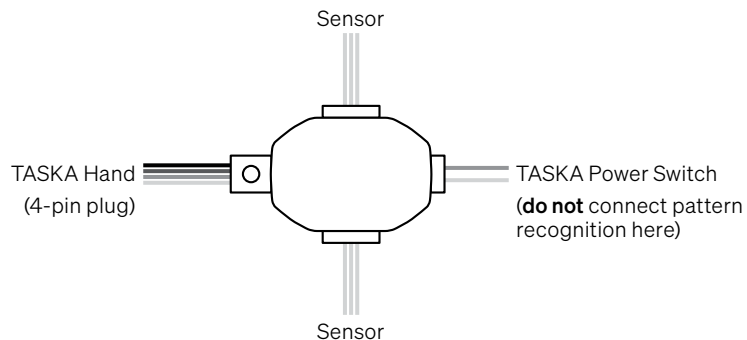

Figure 3: connecting 4-pin plug, sensors and Power Switch to Switch Block.
See figure 3 (page 11) for the correct wiring detail.
- ▲ Do not connect the COM line to the Power Switch (Battery Power). This may damage the circuitry of the hand. Only connect the Power Switch to the Switch Block (see page 11, figure 3 for the correct wiring detail).
1. Connect the 4-pin plug, Sensors and Power Switch to the Switch Block (see figure 3 below).